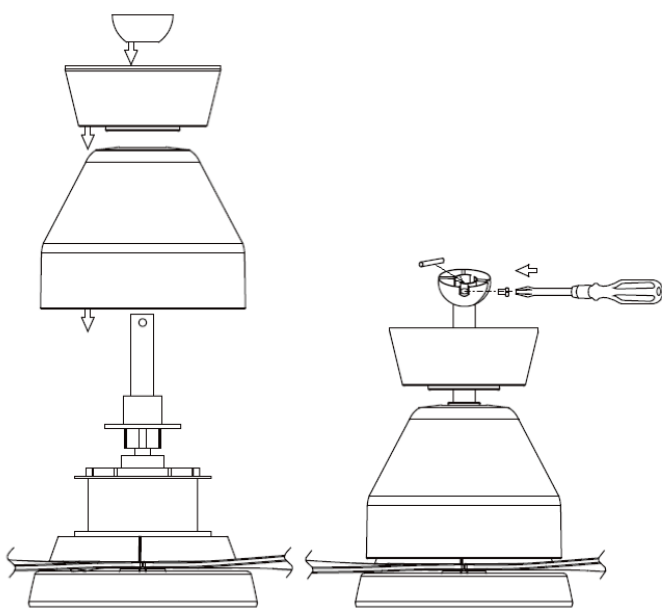

Fig. 6
- Reinstall the motor housing and canopy onto the down rod. (Fig. 6)
- Reinstall the ball joint and dowel pin onto the down rod and secure using the set screw. (Fig. 6)